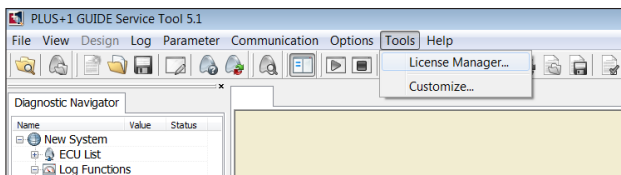

Figure 12. WST License Manager
8. Click on "Tools". On the drop-down menu, click on "License Manager" (Figure 12).